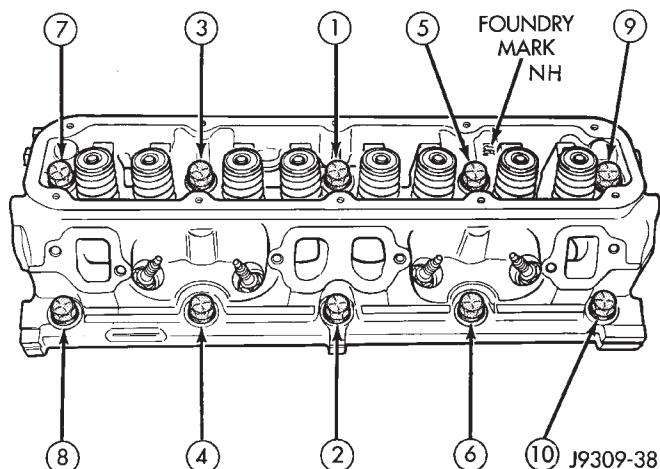

Fig. 19 Cylinder Head Bolt Tightening Sequence
(1) Clean all surfaces of cylinder block and cylinder heads.
(2) Clean cylinder block front and rear gasket surfaces using a suitable solvent.
(3) Position the new cylinder head gaskets onto the cylinder block.
(4) Position the cylinder heads onto head gaskets and cylinder block.
(5) Starting at top center, tighten all cylinder head bolts, in sequence, to 68 N·m (50 ft. lbs.) torque (Fig. 19). Repeat procedure, tighten all cylinder head bolts to 143 N·m (105 ft. lbs.) torque. Repeat procedure to confirm that all bolts are at 143 N·m (105 ft. lbs.) torque.